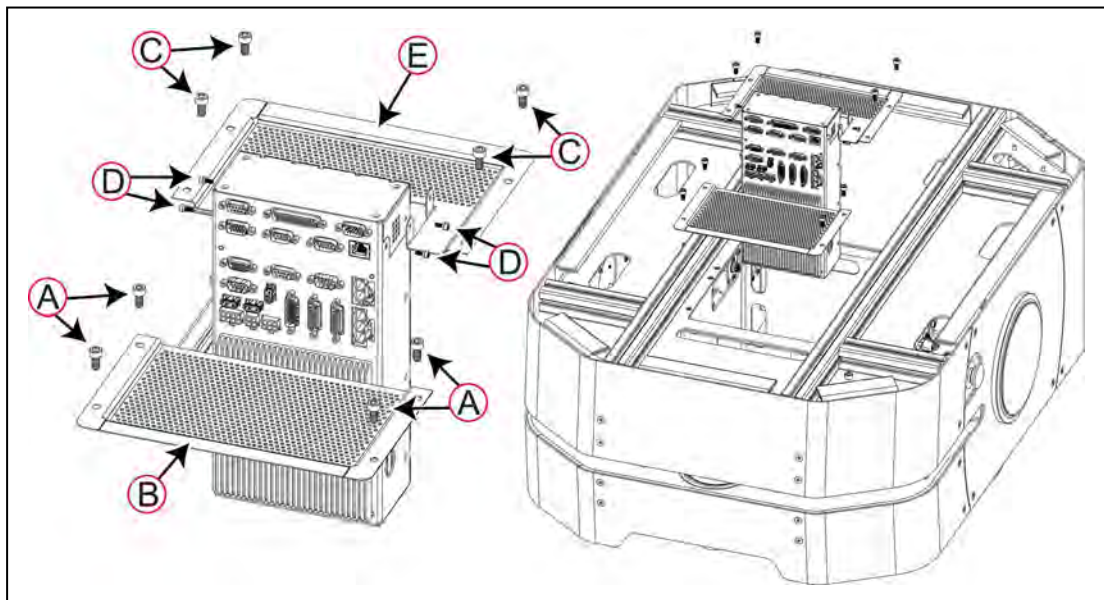

Figure 8-20 LD-250 Core Mounting Brackets and Fasteners
Figure 8-20 shows the mounting brackets and fasteners that you remove to access the LD-250 Core. Retain all fasteners to use when installing the replacement core.
6. Use a 5 mm hex key to remove four 12 mm M6 socket head cap screws (A) and then remove the perforated cover plate [(B) in Figure 8-20].
7. Use a 2.5 mm hex key to remove the four 8 mm M3 socket head cap screws and washers (D) to detach the LD-250 Core from its mounting bracket (E).
8. Use a 5 mm hex key to remove four 12 mm M6 socket head cap screws (C) and then remove the perforated mounting bracket [(E) in Figure 8-20].
3. Use a 2.5 mm hex key to attach the mounting bracket [(E) in Figure 8-20] to the LD-250 Core with four 8 mm M3 socket head cap screws and washers (D).
4. Use a 5 mm hex key to attach the perforated mounting bracket [(E) in Figure 8-20].
5. Use a 5 mm hex key to attach the perforated cover plate [(B) in Figure 8-20] using four 12 mm M6 socket head cap screws (A).